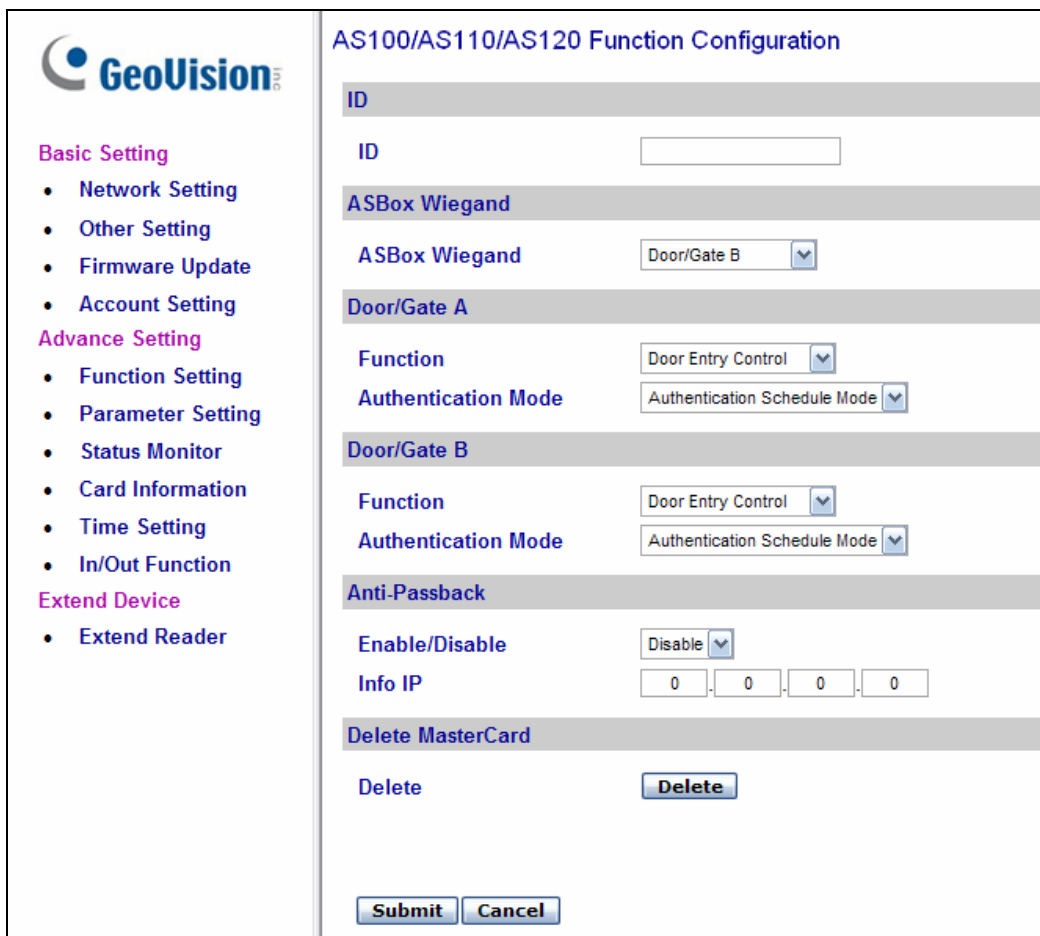

Figure 10-15
In the left menu, click **Parameter Setting**. This **AS100/AS110/AS120 Configuration** page appears. The contents of Parameter Setting change based on your settings for Door/Gate A and Door/Gate B in the **Function Setting** page (Figure 10-15).
- When **Door Entry/Exit Control** or **Parking Entry/Exit Control** is selected in the **Function Setting** page (Figure 10-15), these options become available:
- When **Elevator Control** is selected in the **Function Setting** page (Figure 10-15), these options become available: